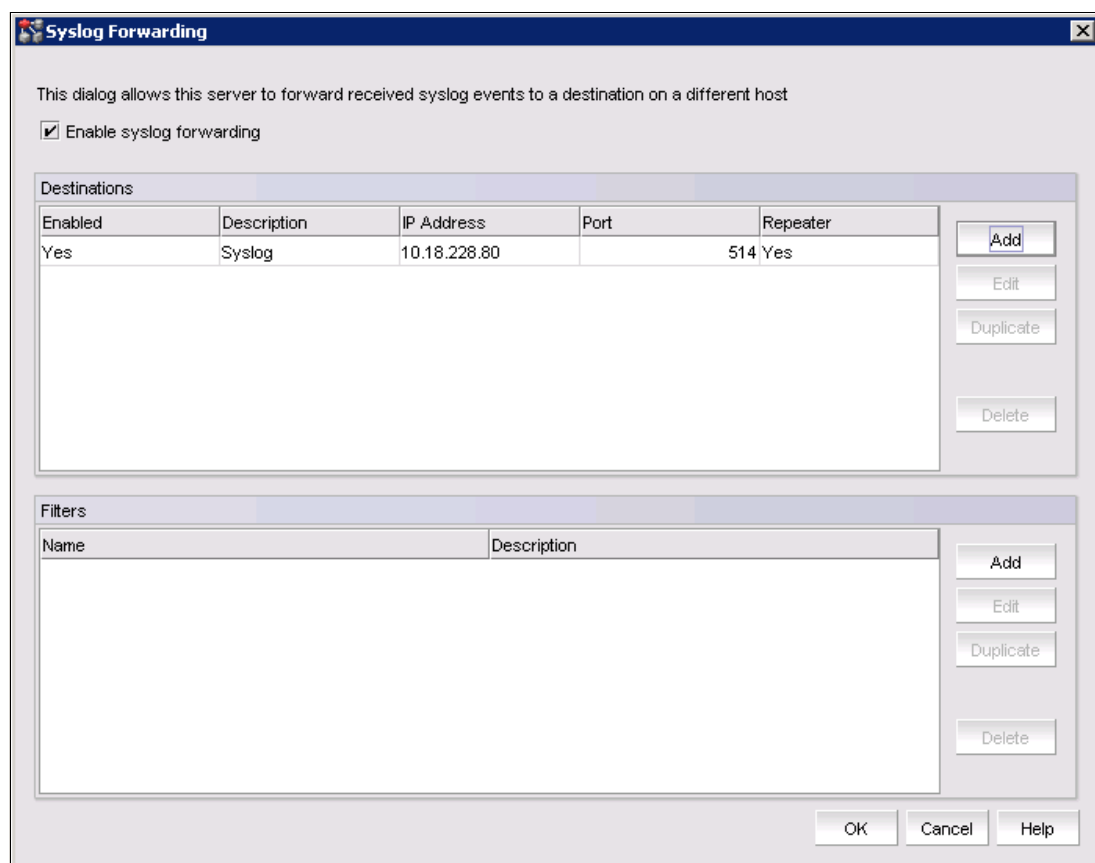

Figure 10-4 Syslog Forwarding window
2. Select **Enable Syslog forwarding** as shown in Figure 10-4 on page 259.
Figure 10-4 shows the Syslog Forwarding window with the syslog server added.